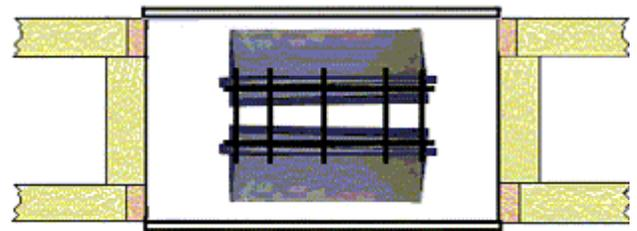

Figure 2
3. Center the **ember burners** on the fireplace floor with the burner pipe completely visible from the front. For best results, the ember burner should be directly under the flue opening with a minimum of 4” from the front edge of the ember burner to the fireplace opening. (See Figure 2)